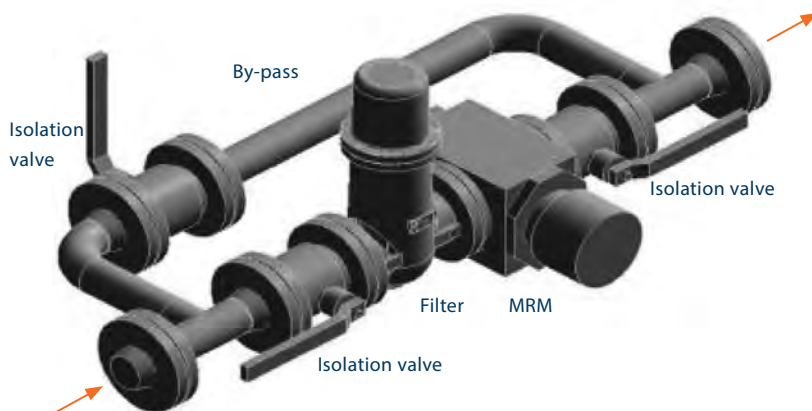
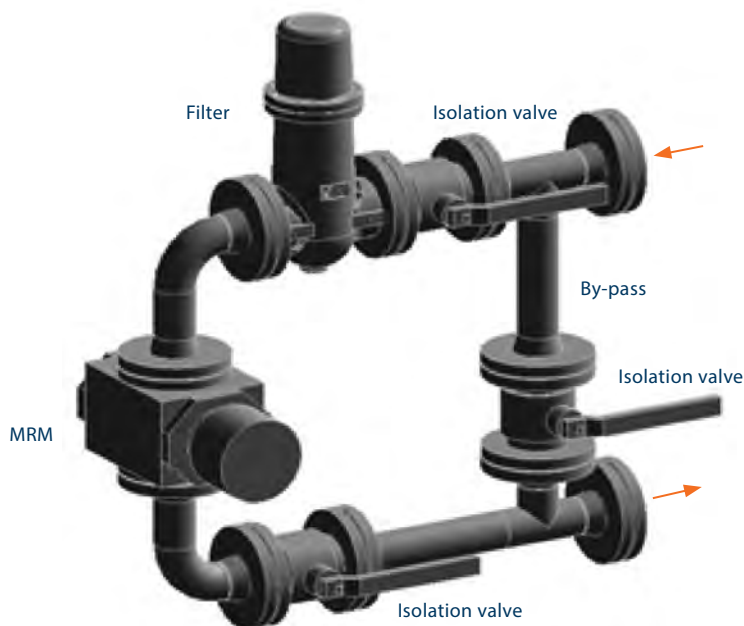

Figure 2: Typical horizontal installation of the MRM rotary displacement gas meter (recommended)
Figure 3: Typical vertical installation of the MRM rotary displacement gas meter
2. Open slowly the upstream valve (fig. 2 and fig.3) to pressurize the pipe until operation pressure is achieved.
5. Slightly open the downstream valve (fig. 2 and fig.3)